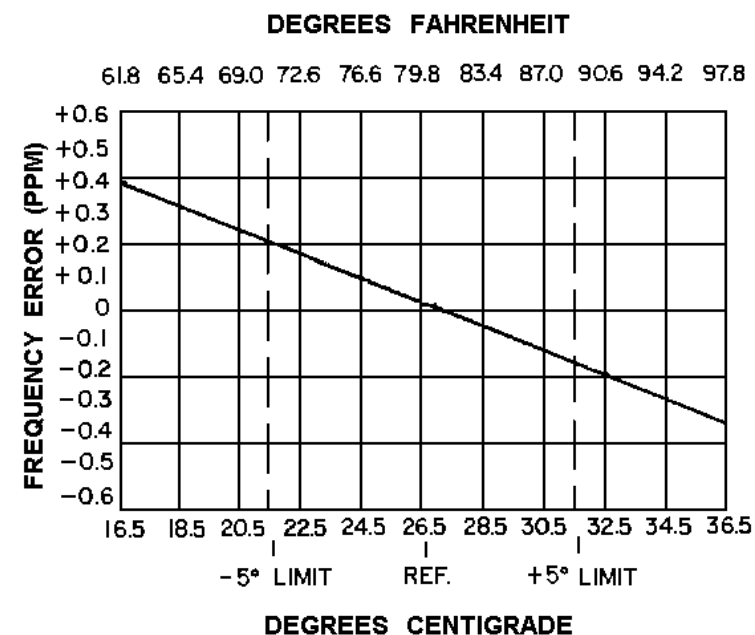

Figure 7 - Frequency Characteristics Vs. Temperature
To SET ICOM frequency using "beat frequency" method, the temperature should be at 26.5°C (79.8°F). If the temperature is not 26.5°C, then offset the "on frequency" signal (at the receivers input), as a function of actual temperature, by the frequency error factor (in PPM) shown in Figure 7.
2. Maintain the radio at 26.5°C (± 10 °C) and offset the oscillator, as a function of actual temperature, by the frequency error factor shown in Figure 7.
- B. To hold setting error to ± 0.35 PPM (which is considered reasonable for 2 PPM ICOMS): Maintain the unit at 26.5°C (± 5 °C) and offset the oscillator, as a function of actual temperature, by the frequency error factor shown in Figure 7.